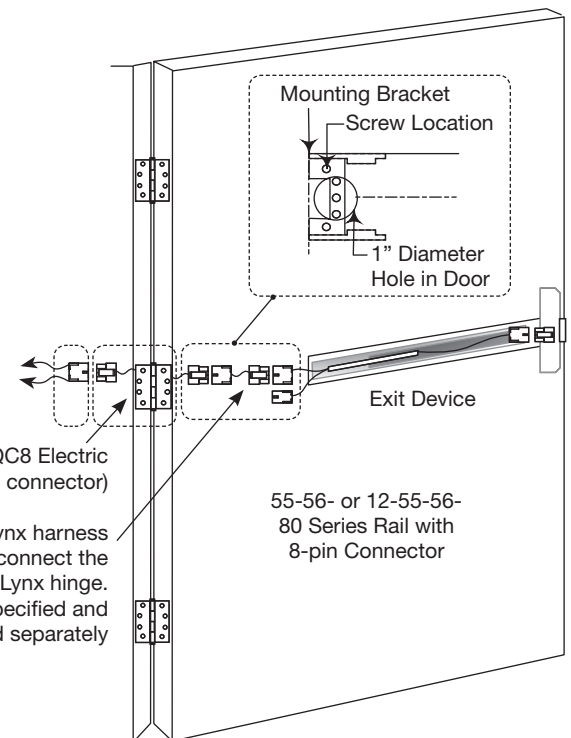

Fig. 7 POWER MODE Installation
- b. Feed the 3" harness through the 1" hole in the door and secure the rail to the door using the mounting bracket and two supplied screws (Fig. 7 **POWER MODE** Installation Diagram).